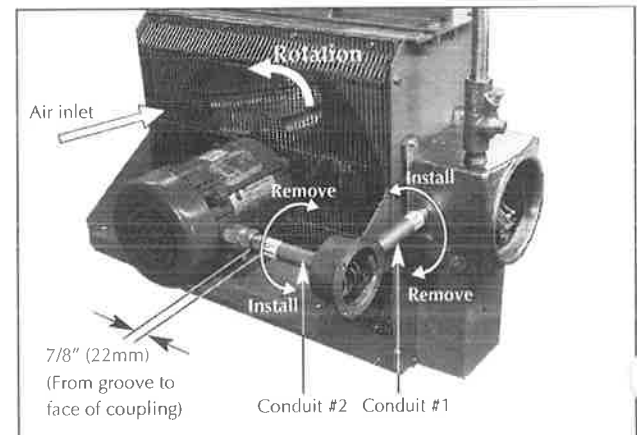

FIGURE 13
- f. ensure air exits through louvers and fan rotates counterclockwise when viewed from rear of heater (see Figure 13).
2. Remove conduit #1 located between motor junction box and control enclosure by turning it in the direction illustrated (see Figure 13).
8. To ensure a minimum 5 thread engagement, threaded ends of conduits must protrude a minimum of 1/16" (1.6mm) into enclosures. The groove on conduit #2 must not be more than 7/8" (22mm) from motor coupling (see Figure 13).
10. Air must exit through louvers and fan must rotate counterclockwise when viewed from rear of heater (see Figure 13).